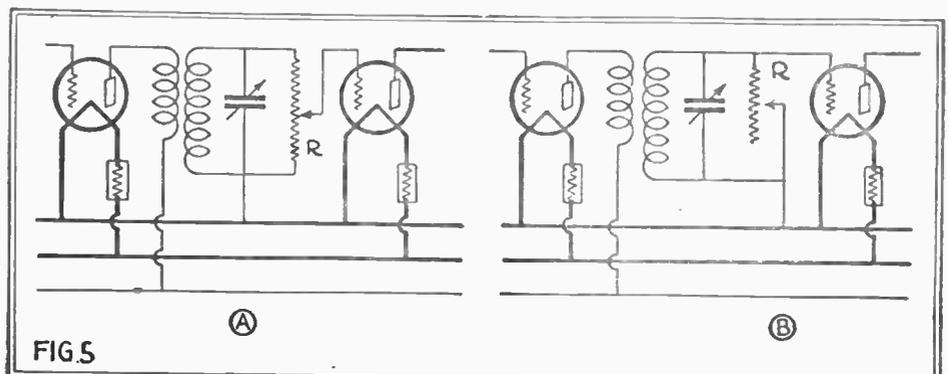

FIG. 5
The final method of control in the radio-frequency amplifier is the grid circuit. Two methods of using this method of volume control are shown in Fig. 5; the first (A) is quite satisfactory if single-dial tuning is not used. However, it is not entirely suitable if the tuning controls are ganged together, because of the detuning effect; but this detuning can be overcome by using the system shown at B. The disadvantage of this method is the effect on the selectivity; when the resistance is reduced, the selectivity is ruined.